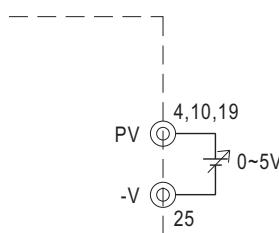

Fig. 3.1 Add on 0~5V external voltage
(1)Connecting an external DC source between PV(4,10,19) and -V(25) on CN500 that is shown in Fig. 3.1.